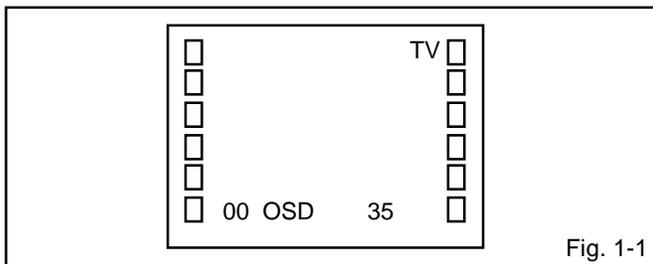

Fig. 1-1
1. In the condition of NO indication on the screen. Press the VOL. DOWN button on the set and the Channel button (9) on the remote control for more than 1 second to appear the adjustment mode on the screen as shown in Fig. 1-1.
4. Activate the adjustment mode display of Fig. 1-1 and press the channel button (01) on the remote control to select "CUT OFF".
4. Activate the adjustment mode display of Fig. 1-1 and press the channel button (12) on the remote control to select "R CUT OFF".
3. Activate the adjustment mode display of Fig. 1-1 and press the channel button (03) on the remote control to select "H. PHAS".
3. Activate the adjustment mode display of **Fig. 1-1** and press the channel button **(06)** on the remote control to select "H. SIZE".
3. Activate the adjustment mode display of **Fig. 1-1** and press the channel button **(07)** on the remote control to select "V. SIZE".
3. Activate the adjustment mode display of **Fig. 1-1** and press the channel button **(08)** on the remote control to select "V. LIN".
3. Activate the adjustment mode display of **Fig. 1-1** and press the channel button **(32)** on the remote control to select "TRAPEZIUM".
3. Activate the adjustment mode display of **Fig. 1-1** and press the channel button **(30)** on the remote control to select "PARABOLA".
3. Activate the adjustment mode display of **Fig. 1-1** and press the channel button **(33)** on the remote control to select "LEVEL".
1. Activate the adjustment mode display of **Fig. 1-1**.
3. Activate the adjustment mode display of **Fig. 1-1** and press the channel button **(16)** on the remote control to select "BRI CENT".